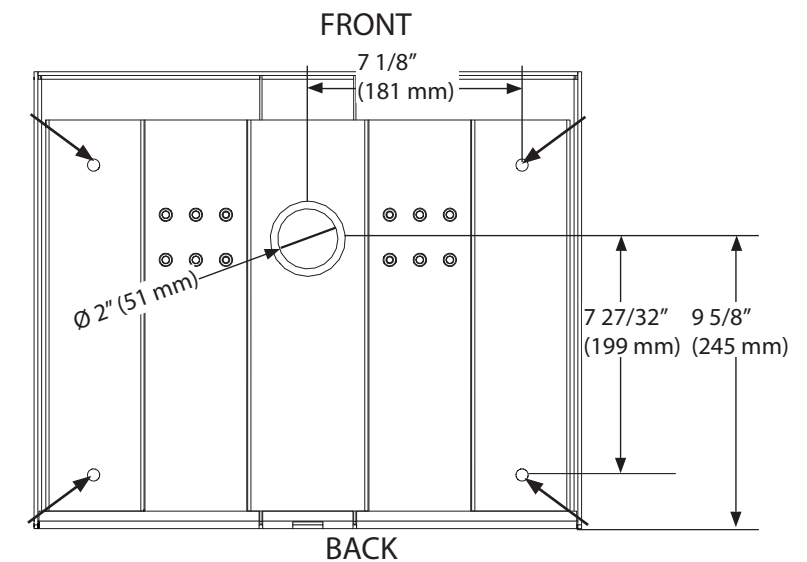

Figure 4: TX3-T-KIOSK2 dimensions (from below)
2. Using the floor bracket as a template, trace an opening on the floor for the cutout and mark the 4 floor bracket mounting hole locations as shown in Figure 4.
5. Secure the floor bracket to the floor using 4 bolts through the floor bracket mounting holes shown in Figure 4. The holes are 13/32" (10 mm) in diameter.